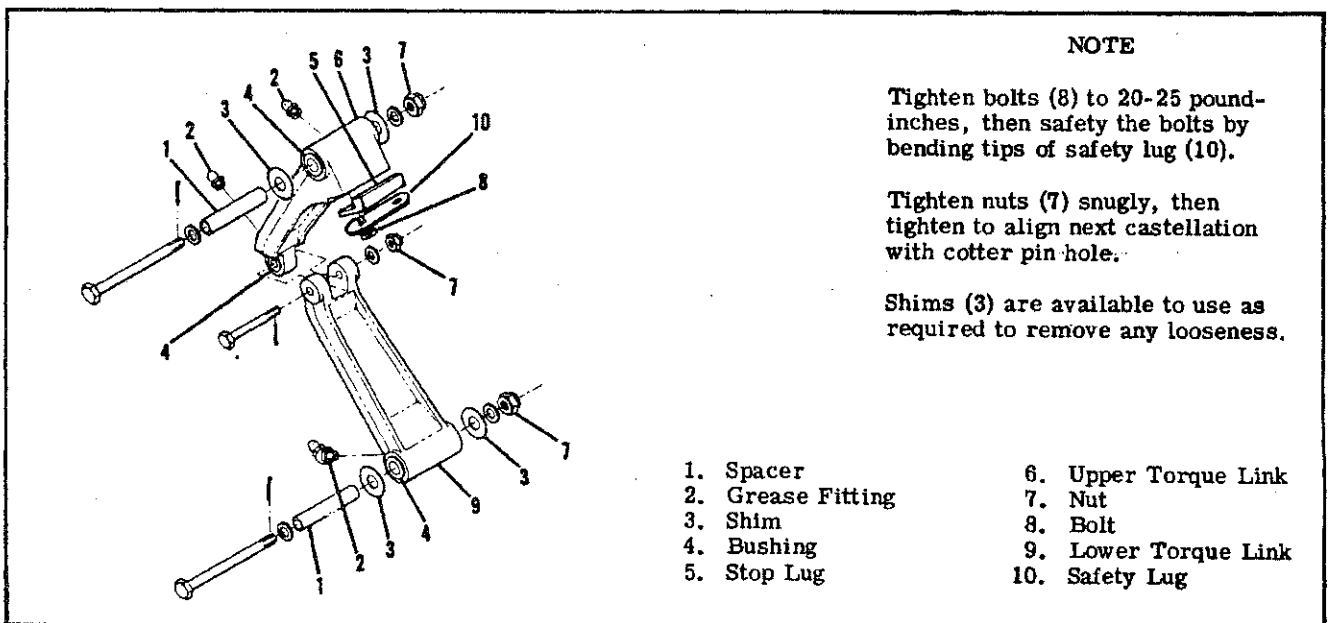

Figure 5-12. Nose Gear Torque Links
5-35. **TORQUE LINKS.** The torque links are illustrated in figure 5-12, which may be used as a guide for removal, disassembly, assembly, and installation. The torque links keep the lower strut aligned with the nose gear steering system but permit shock strut action. Torque link bushings should not be removed except for replacement with new parts. Excessively worn parts should be replaced with new parts. Always deflate nose gear strut before disconnecting torque links.
**5-45. BRAKE MASTER CYLINDER REPAIR.** Figure 5-12 may be used as a guide during disassembly, repair, and re-assembly of the brake master cylinders. Repair of the cylinders is limited to installation of new parts, cleaning, and adjustment. Use clean hydraulic fluid as a lubricant during assembly of the cylinders.